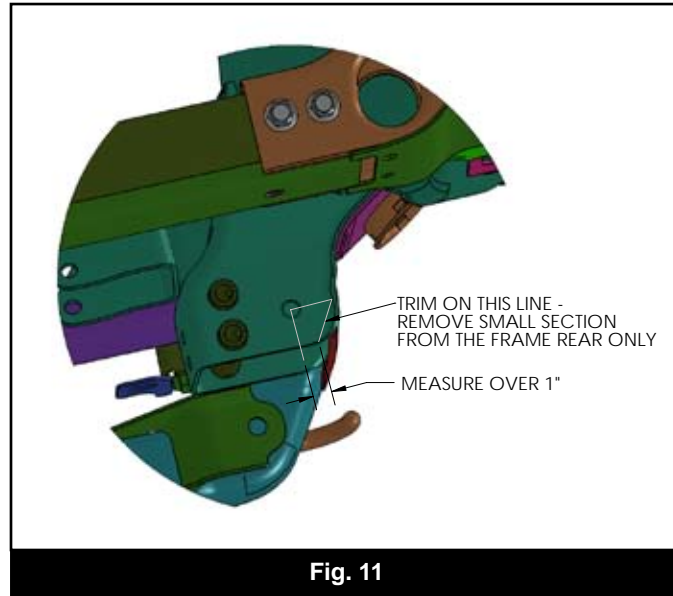

Fig. 11
29. The OE control arm pocket must be trimmed for clearance of the torsion bar under extreme wheel compression. Measure over 1" and draw a vertical line, draw a horizontal line from the center of the mounting hole over to the edge (Fig 11 & 13). Connect where these lines meet the edges and remove material. Next, use a file or rotary grinder to remove the sharp lip left from the control arms (Fig 12). This will allow the cross members to be installed easily.